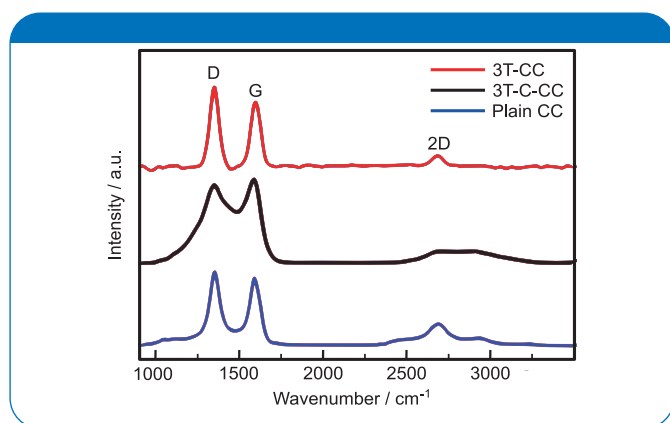

Figure 4: Raman spectra of different electrode types.^[5]
This binder-free 3DOM TiO₂ electrode is fabricated by depositing a polystyrene (PS) template on pure carbon cloth (CC), using a simple dipcoating technique. The TiO₂ then infiltrates the templated carbon cloth via a sol-gel solution. Afterwards, the raw electrode is heat-treated under air (3T-CC) or argon (3T-C-CC) to crystallize TiO₂ and remove the template. Figure 4 shows the Raman spectra of the electrode variants.